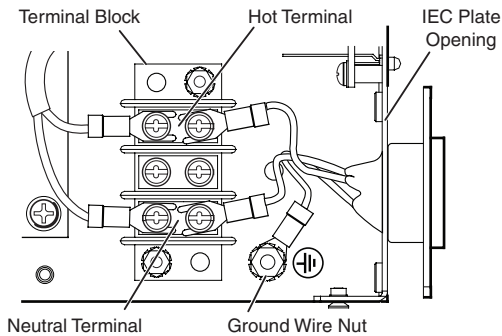

Figure 6 — Terminal block and IEC connector wiring
5. Use a standard screwdriver to loosen the screws holding the **hot** and **neutral** wires on the side of the terminal block nearest the IEC plate opening (figure 6).